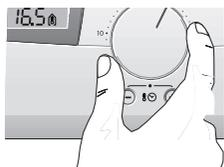

figure 4-1
- Turn the temperature adjustment knob to the desired temperature (refer to figure 4-1)